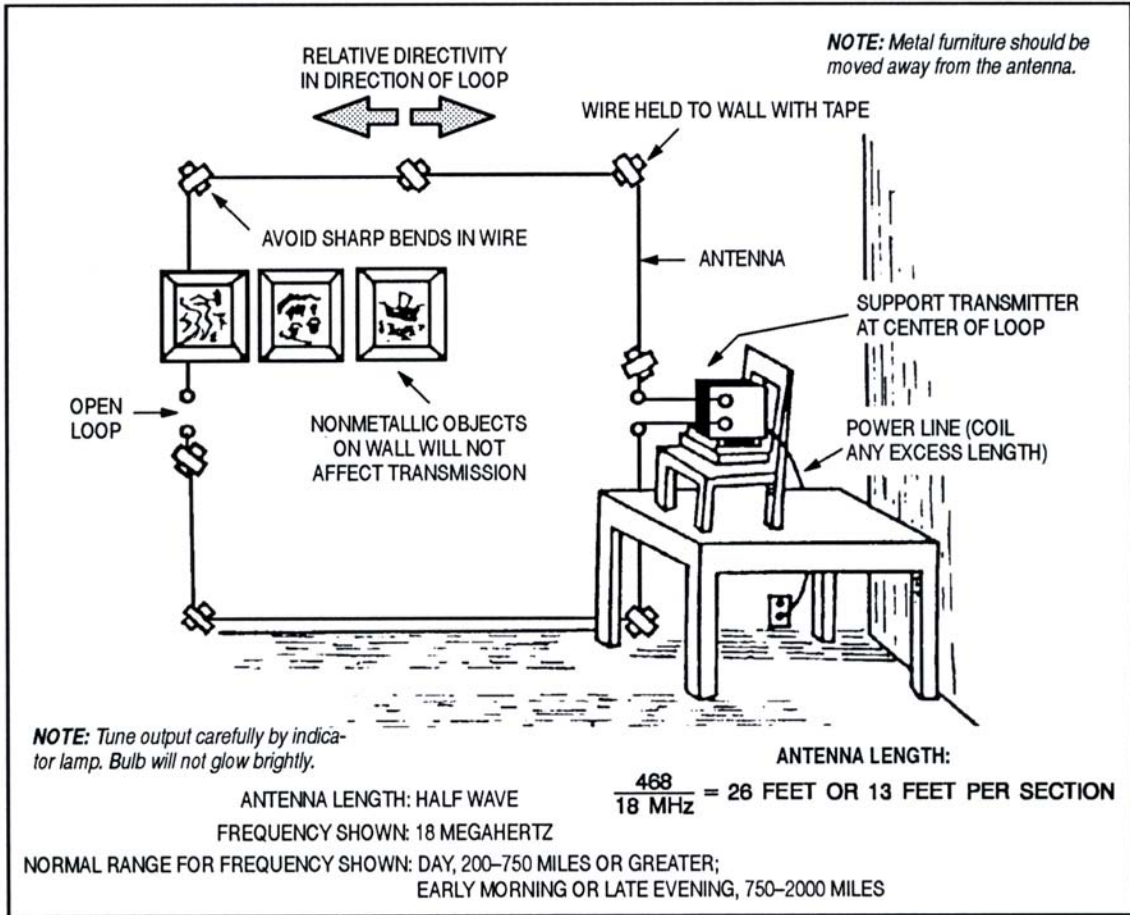

Figure 2. Half-Wave Square Loop Antenna
- (4) Check local available power for adequacy of voltage, current, and frequency requirements. Ensure power sources are sufficient to preclude fluctuations in other areas of the neighborhood when transmitting.
- (5) Check the immediate area around the location for metal obstructions that may cause a distortion in the radiation pattern of the transmitted signal.
- (6) Determine the bearing to the receiving station in relation to the layout of the location.
- (7) Check the location for adequate horizontal clearance in the direction of transmission in relation to the required transmission angle. The horizon, whether it is from terrain or buildings, should be no more than one-half the transmission angle.
- (8) Check the location for a means to conceal or disguise the antenna and transmission line from view and a means to support the antenna, such as exterior steps made of wood, guy wires for signs, rain gutters, or clotheslines.
- b. Determine the types of antennas that can be erected in the available space, supports, and concealment areas. (Figures 2 through 7 illustrate field expedient antenna configurations.)